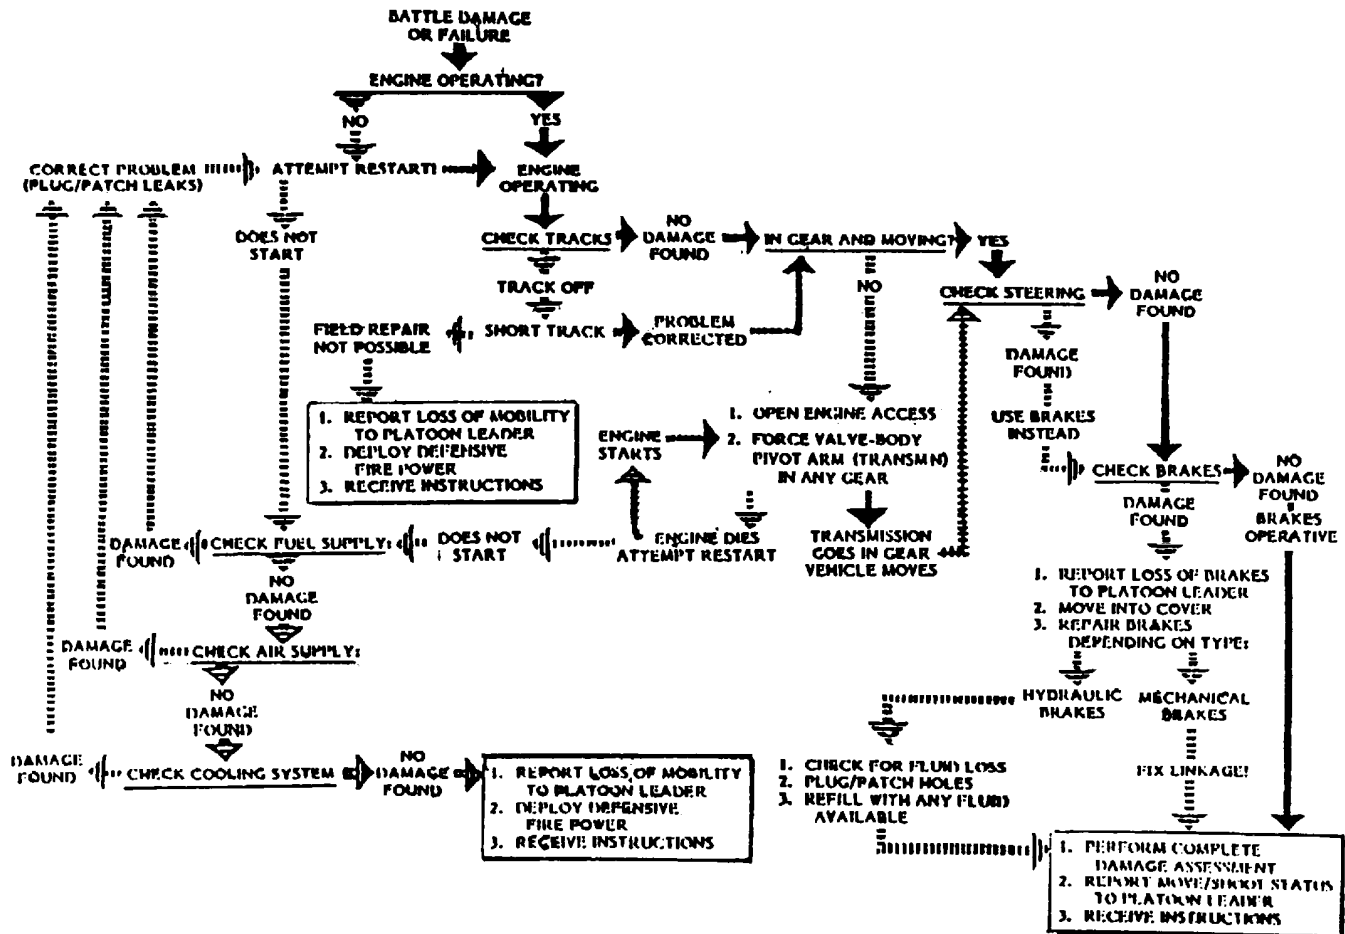

Figure 2-1. Battlefield Damage Assessment Process.
- a. The assessment procedures are structured using the logic process shown in figure 2-1 below.